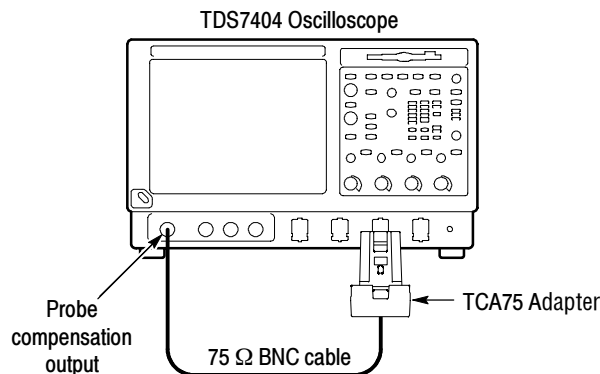

Figure 7: Probe setup
2. Connect a 75 Ω coaxial cable between the TCA75 adapter input and the PROBE COMPENSATION output connector on the oscilloscope. The test setup is now connected as shown in Figure 7.